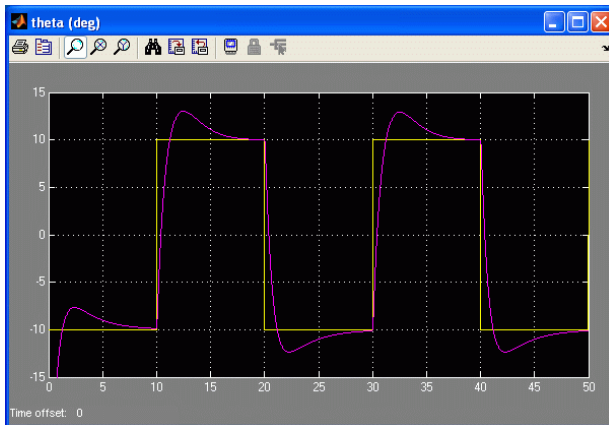

Figure 25: Simulated pitch response under pitch reference step using LQR+I.
10. Ensure the pitch scope, θ (deg), the yaw scope, ψ (deg), and the motor input voltage scope, V_{m_sim} (V), are open. If not, go into the *Scopes* subsystem and double-click on those sinks.
12. Click on the *Start* simulation button, or on the *Start* item in the *Simulation* menu, to run the closed-loop system using LQR+I and the scopes should read as shown in figures 25, 26, and 27. In each scope, the simulated pitch and yaw angles (purple trace) should track the corresponding desired position signals (yellow trace). Also, examine the voltage in the V_{m_sim} (V) scope and ensure the front (yellow plot) and back motor (purple plot) are not saturated. Recall that the maximum peak voltage that can be delivered to the front motor by the UPM-2405 is ± 24 V and to the back motor by the UPM-1503 is ± 15.0 V.